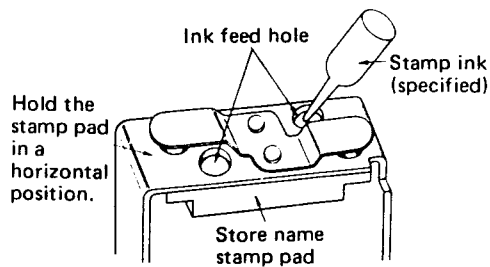

Fig. 4
3. Hold the stamp pad holder in a vertical position, and feed 1 drop of ink into each of the two holes in the holder. (Fig. 4) It is unnecessary to remove the stamp pad.